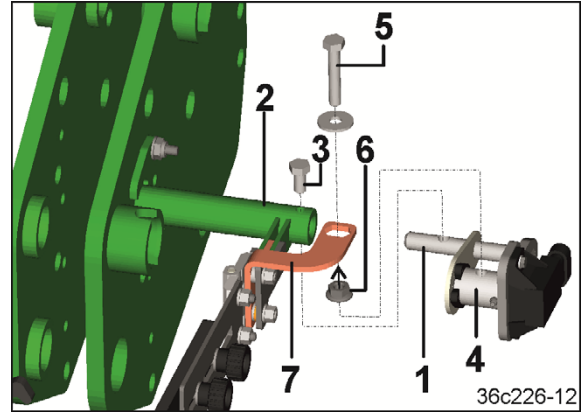

Fig. 99
7. Insert the torque support (Fig. 99/1) into the holder (Fig. 99/2) and fasten with a hex. bolt (Fig. 99/3).
8. Connect the potentiometer (Fig. 99/4) with a hex. bolt (Fig. 99/5) and hex. nut (Fig. 99/6) with the section (Fig. 99/7).